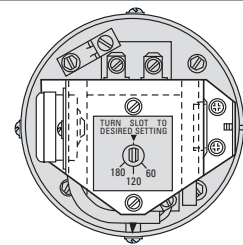

Figure 3
5. To set thermostat, turn the slotted screw at top of thermostat counter-clockwise until flat side is facing terminals. This is the "OFF" position. Next, turn the slotted screw clockwise until slot in screw points to the desired temperature shown on scale. **Note:** Scale is marked in increments of 60°F. Replace terminal cover. (See Figure 3)